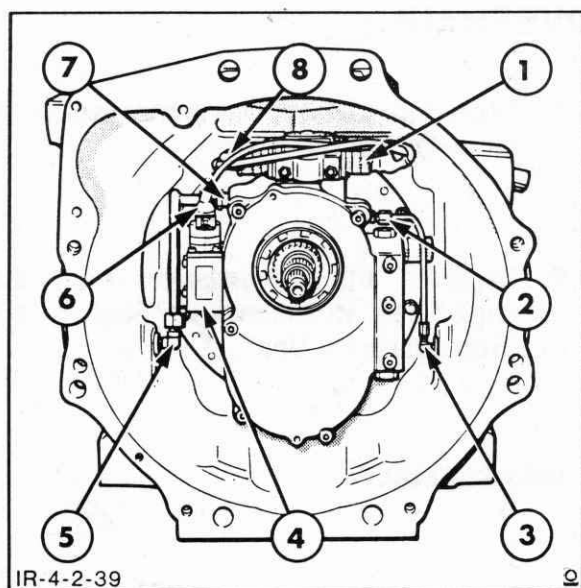

Figure 4-132
1. Disconnect the oil cooler return pipe and elbow at the transmission case, Figure 4-132. Disconnect the return pipe at the oil distributor housing and remove the pipe from the transmission case.
2. Disconnect the pressure test port feed pipe and elbow at the transmission case. Disconnect the feed pipe at the oil distributor housing and remove the pipe from the transmission case, Figure 4-132.